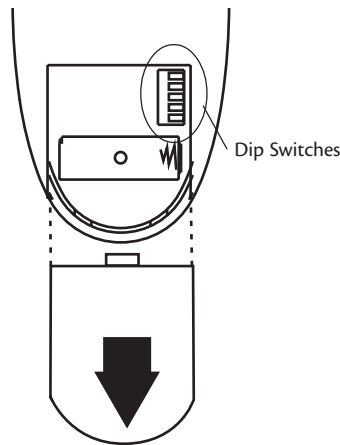

Figure 26 - Installing the battery and setting the dip switches
- Slide the cover off the back of the remote as shown in Figure 26, pressing in and sliding the cover down to release.
- Install the included 12 volt alkaline battery (Type 23A, MN-21 or equivalent) inside the remote, matching polarity on the Battery as indicated by the + and - symbols in the Battery Compartment. See Figure 26. Replace the cover.
2. Slide the cover off the back of the remote and remove the battery. The battery must be removed when changing dip switch settings. Refer to BATTERY INSTALLATION and Figure 26.